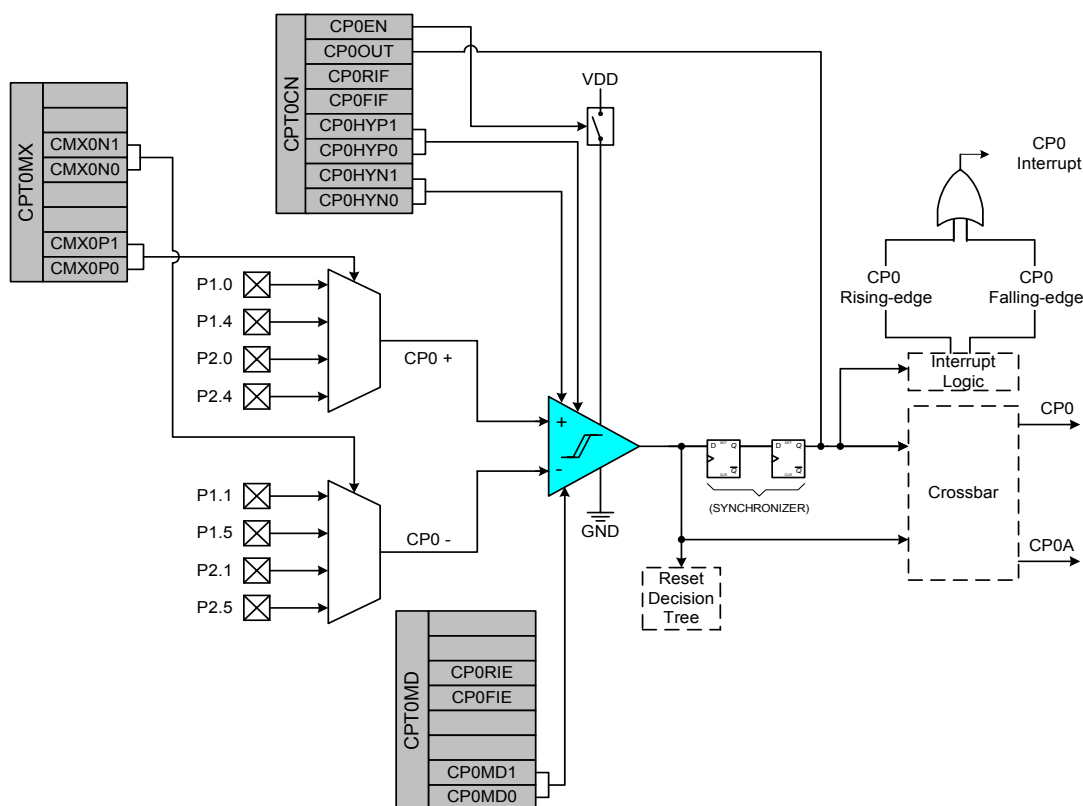

Figure 7.1. Comparator0 Functional Block Diagram
C8051T61x devices include two on-chip programmable voltage comparators: Comparator0 is shown in Figure 7.1; Comparator1 is shown in Figure 7.2. The two comparators operate identically with the following exceptions: (1) Their input selections differ as shown in Figure 7.1 and Figure 7.2; (2) Comparator0 can be used as a reset source.